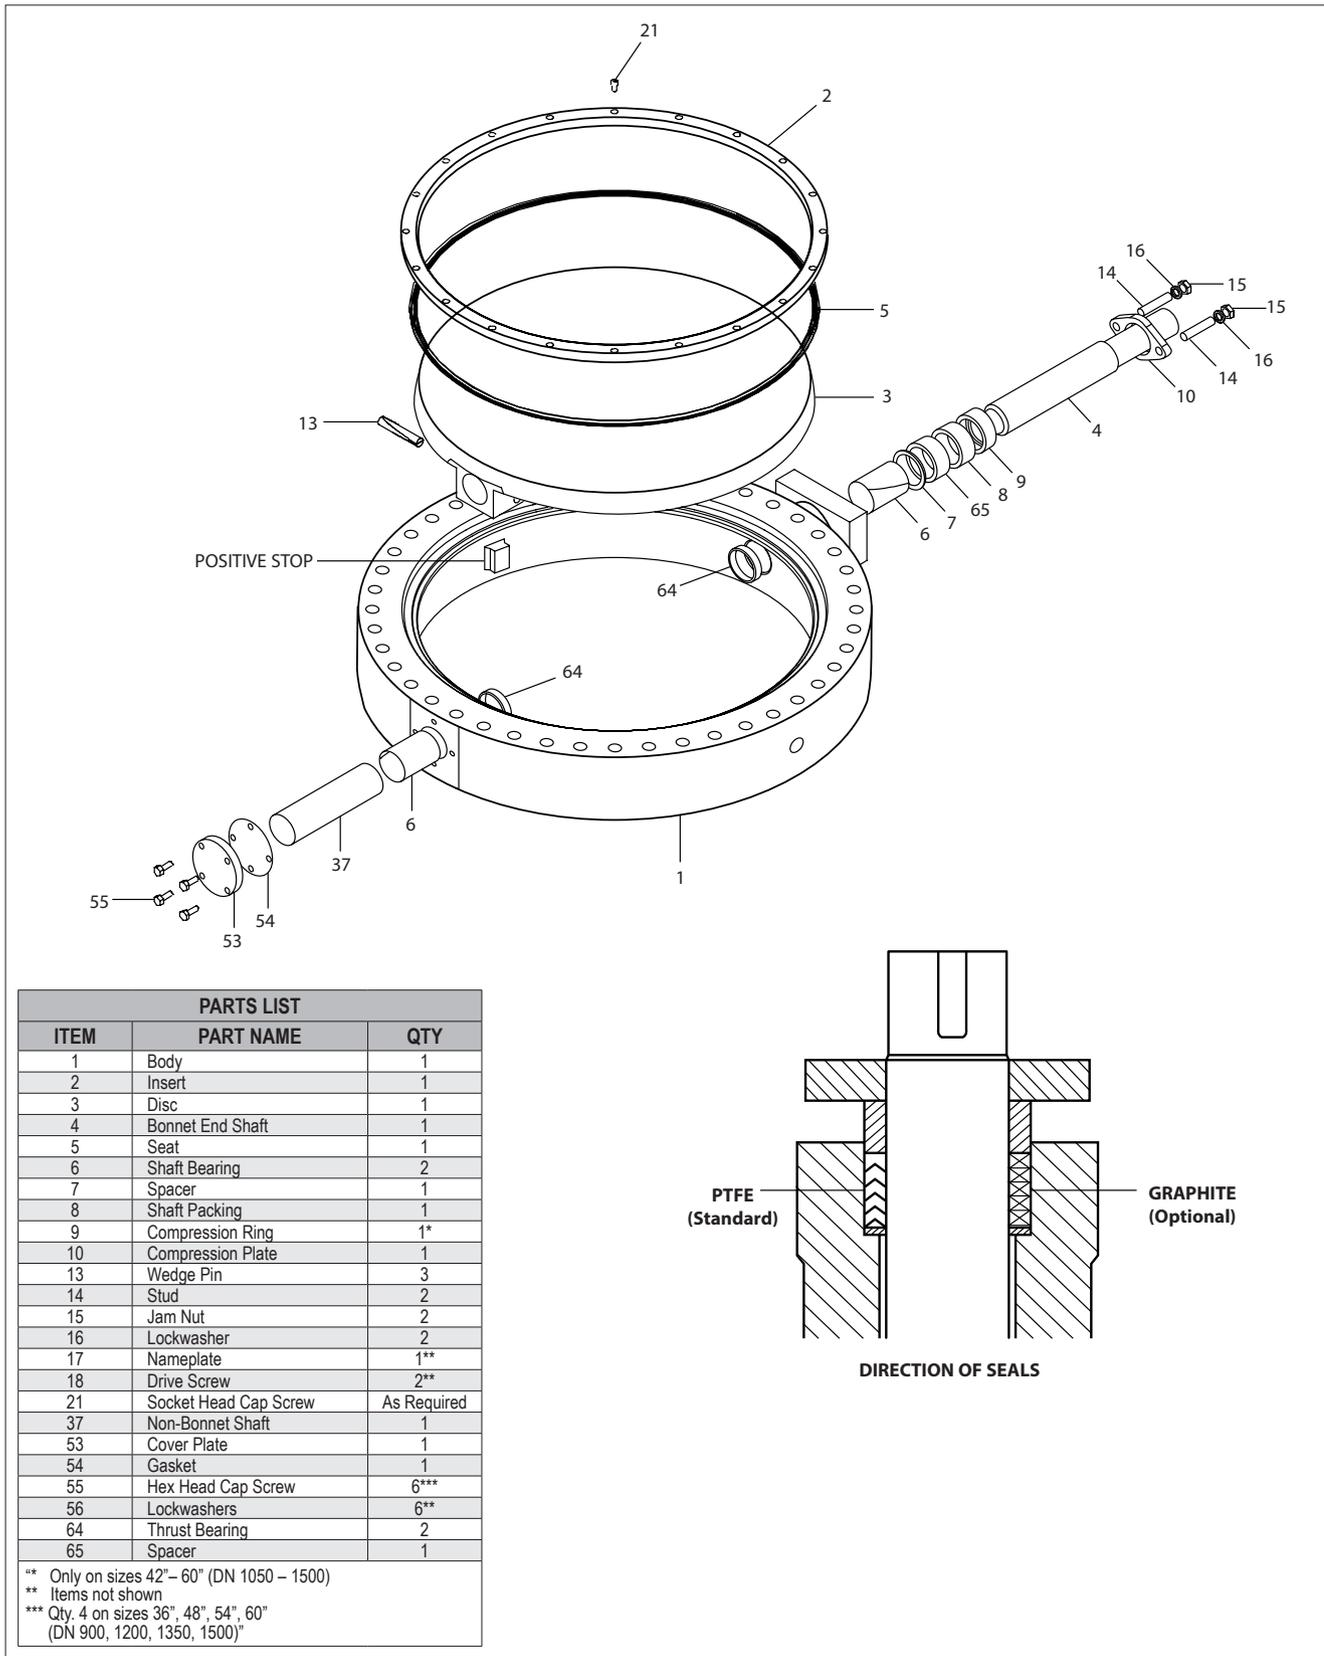

Figure 9.
3. Place the coupling onto the valve stem. If the valve has a two-piece “no-play” bolted coupling, assemble the coupling loosely on the valve stem. Use socket head cap screws and lock nuts. (See Figure 9)